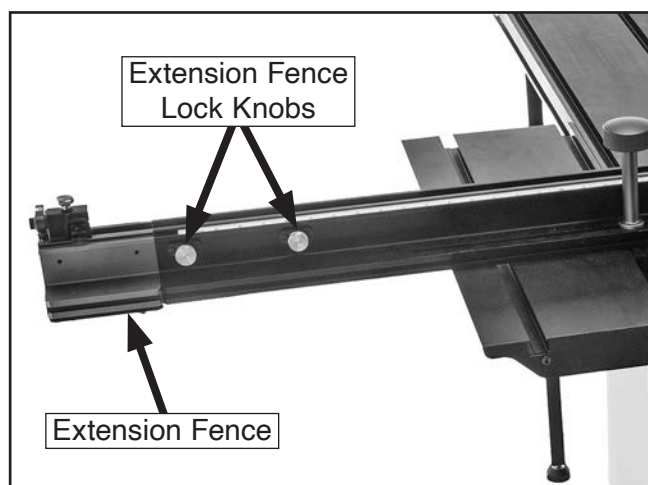
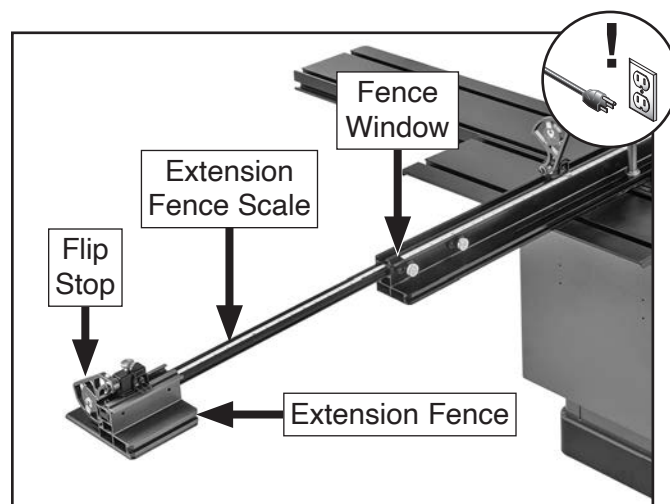

Figure 26. Extension fence components.
Figure 27. Extension fence extended all the way left.
1. Loosen (2) extension fence lock knobs shown in **Figure 26**.
2. Position extension fence (see **Figure 26**) for operation.
3. Tighten (2) lock knobs (see **Figure 26**) loosened in **Step 1**.
6. Loosen (2) extension fence lock knobs shown in **Figure 26**, and slide extension fence all the way left (see **Figure 27**), then tighten lock knobs to secure.